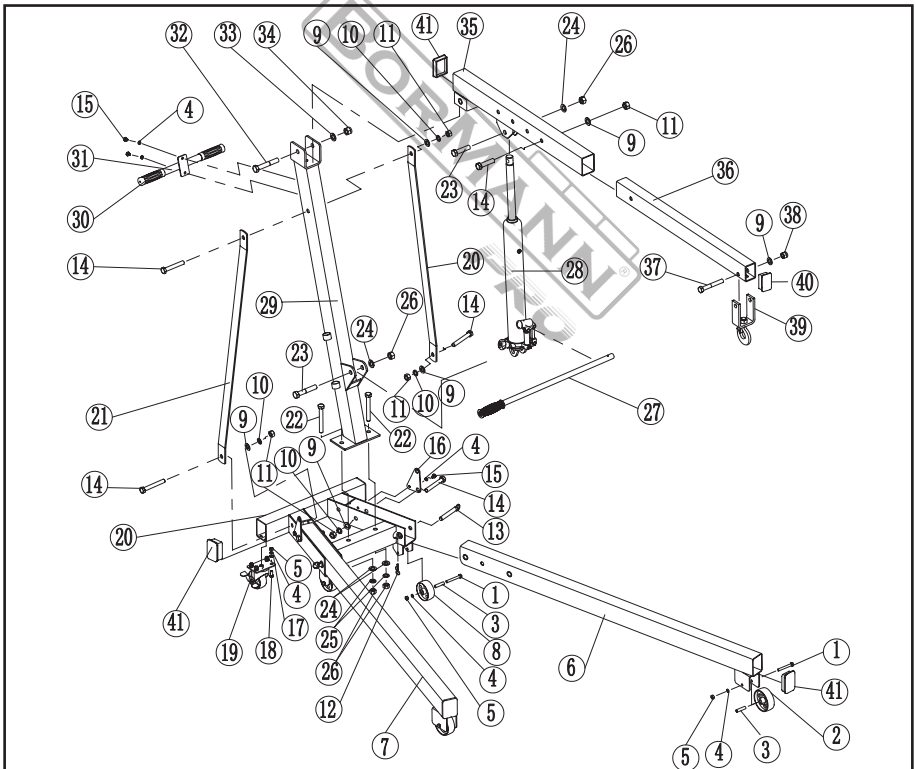

Fig. 1 Hydraulic Engine Crane Assembly Diagram
Assembly (Fig. 1, Appendix I, Appendix II)
11. Slide the Boom Extension (No.36) into the Boom (No.35) and use Bolt (No.14), Washer (No.9) and Nut (No.11) to secure at the desired load rating. Use Bolt (No.37), Washer (No.9) and Nut (No.38) to attach the Hook and Chain (No.39) to the end of the Boom Extension. (The boom has four different load ratings; select desired rating before use.) - Please refer to Fig. 1, Appendix I & Appendix II.